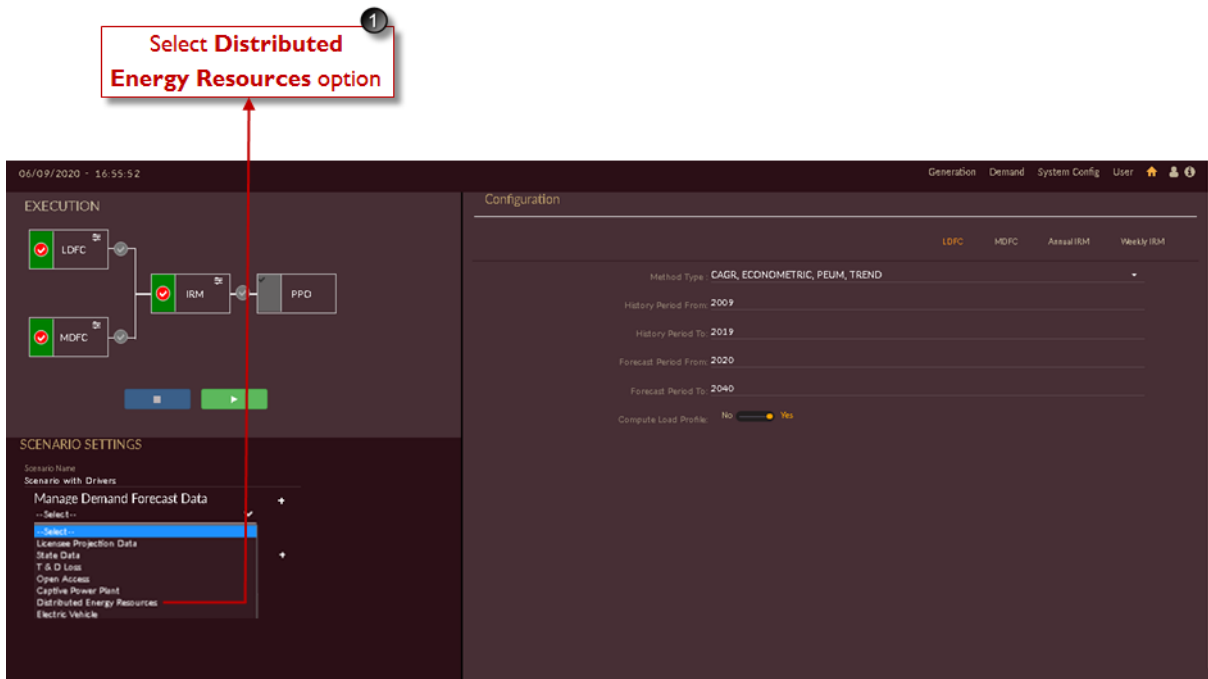

Figure 103. Manage Distributed Energy Resources Data
1. Click on **Manage Demand Forecast Data**  icon and select **Distributed Energy Resources** from the drop-down list as shown in Figure 103.